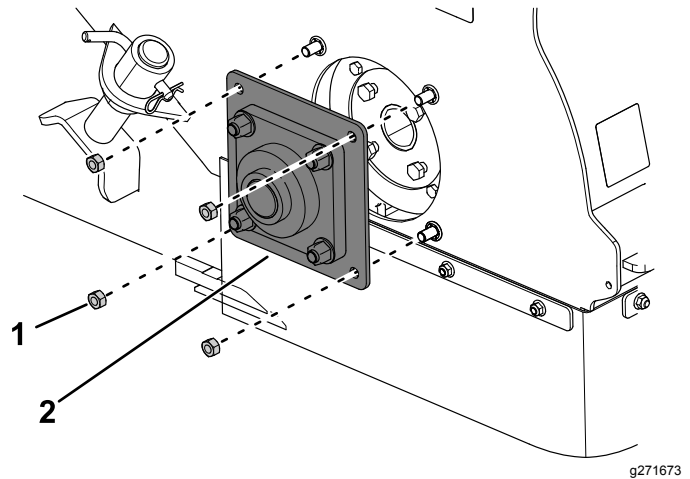

Figure 8
5. On the right side of the machine, remove the 4 nuts (1/2 inch) securing the bearing mount plate and remove the bearing mount plate (Figure 8).
6. Install the bearing mount plate (Figure 8).